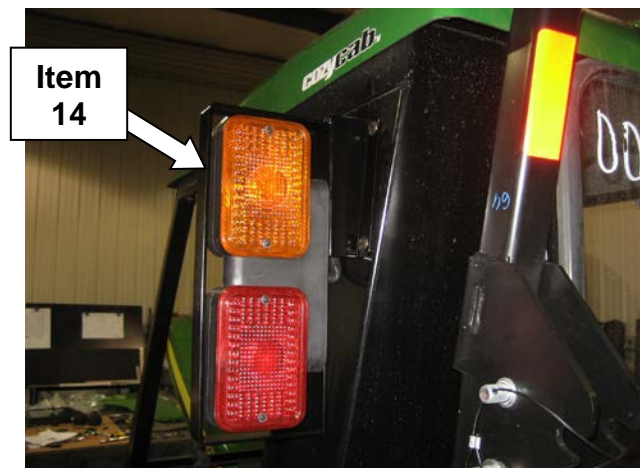

Figure 13
35. Repeat steps 30 thru 34 using LH flasher mount bracket (12) onto LH side of cab (Figure 13).